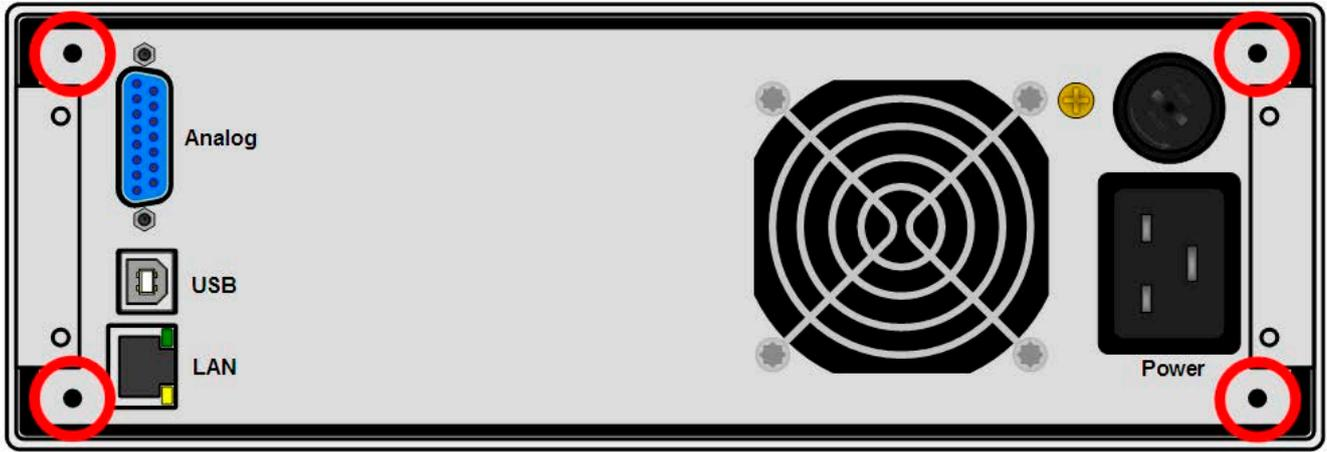

Figure 10 - Positions for the hex spacers (3) (1000 W / 1500 W models shown)
Recommended procedure (also see *Figure 7* to *Figure 10* below):
2. Remove the front frame (1). Also remove the rear frame (1) by loosening the 4 screws.
3. Place the mounting brackets (2) and fix them with 2x screw M4x10 and 2x contact disc M4 each. Here it is recommended to use a 90° Torx screw driver (ratchet etc.).
4. Screw the 4 hex spacers (3) M3x10 into the threaded holes which were used to hold the rear frame (*Figure 10*).